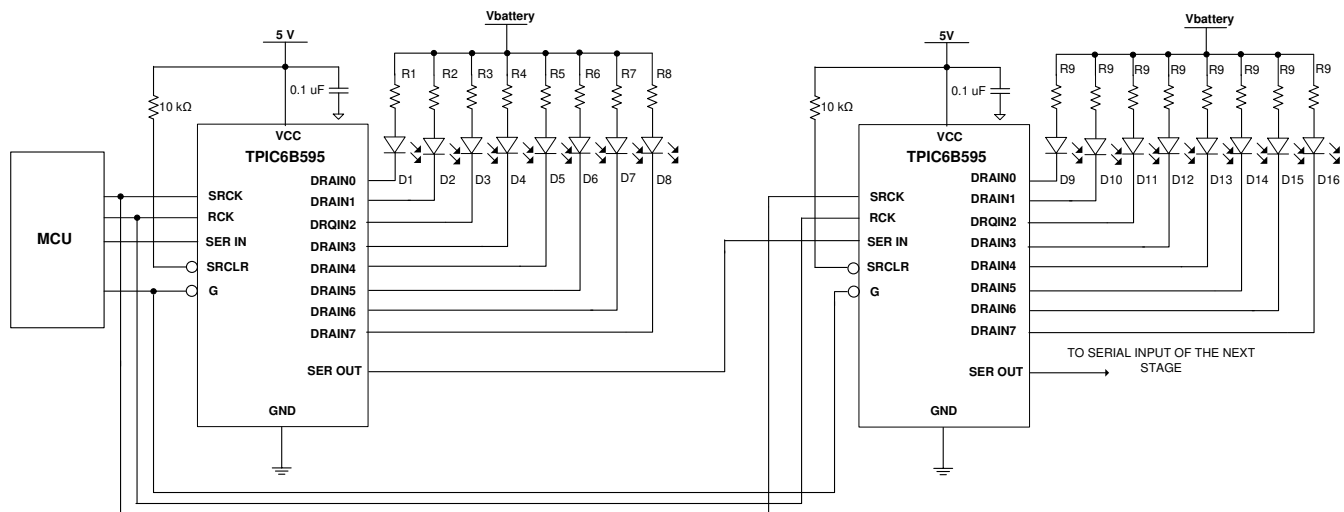

Figure 8-1. Typical Application Schematic
The typical application of the TPIC6B595 device is the automotive cluster driver. In this example, two TPIC6B595 power shift registers are cascaded and used to turn on LEDs in the cluster panel. In this case, the LED must be updated after all 16 bits of data have been loaded into the serial shift registers. MCU outputs the data to the serial input (SER IN) while clocking the shift register clock (SRCK). After the 16th clock, a pulse to the register clock (RCK) transfers the data to the storage registers. If output enable (G) is low, then the LEDs are turned ON corresponding to the status word with ones being ON and zeros OFF. With this simple scheme, MCU use SPI interface can turn on 16 LEDs using only two ICs as illustrated in Figure 8-1.